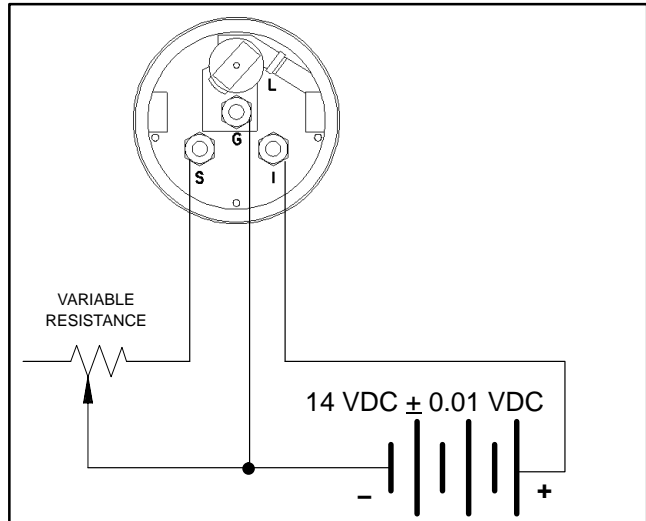

Figure 40
1. Connect temperature gauge to the variable resistance and DC voltage source (Fig. 40).